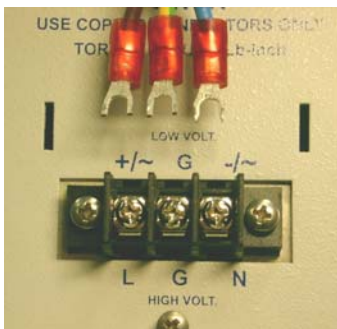

Fig. 6.3: Power cable & Terminal block
- 3 – Connect the wires of the power cable (see Figure 6.2) to the Terminal Block (see Figure 6.3) paying attention to L=Line. G=Ground & N=Neutral.